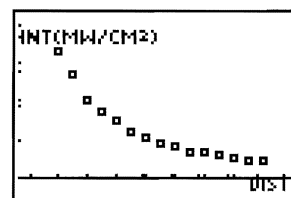

Figure 2:
- 3 After the data is collected, a plot of light intensity (in mW/cm^2) versus separation (in centimeters) appears on the calculator screen. The plot should look similar to the one shown in Figure 2. Make a printout of this graph using TI-GRAPH LINK or save it as a PIC variable to be printed later. Attach this printout to your lab notebook. Be sure to include appropriate scales and axis labels on the printout.